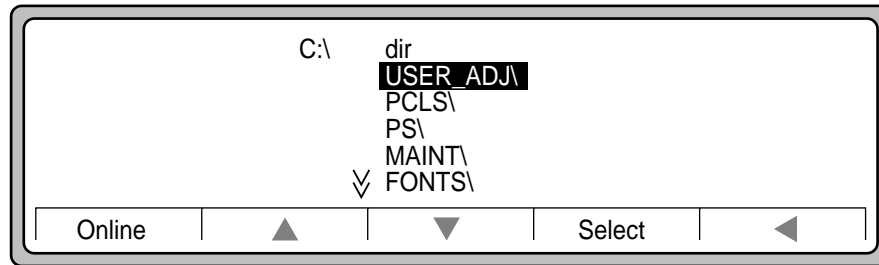

Figure 6-5 FilesC submenu
4. From the filesC submenu shown in Figure 6-5, use ▼ to highlight USER_ADJ, then press Select.